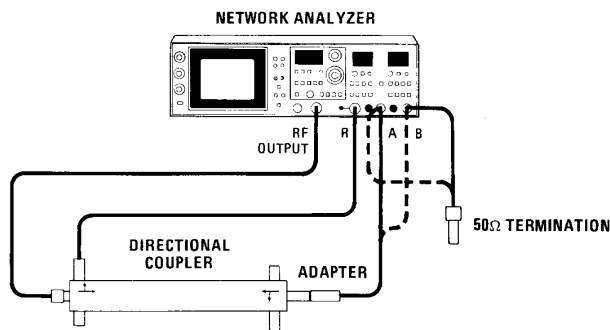

Figure 4-13. A-B Crosstalk Test Setup
11. Connect equipment as shown in Figure 4-13 with 50 ohm termination at B INPUT port.